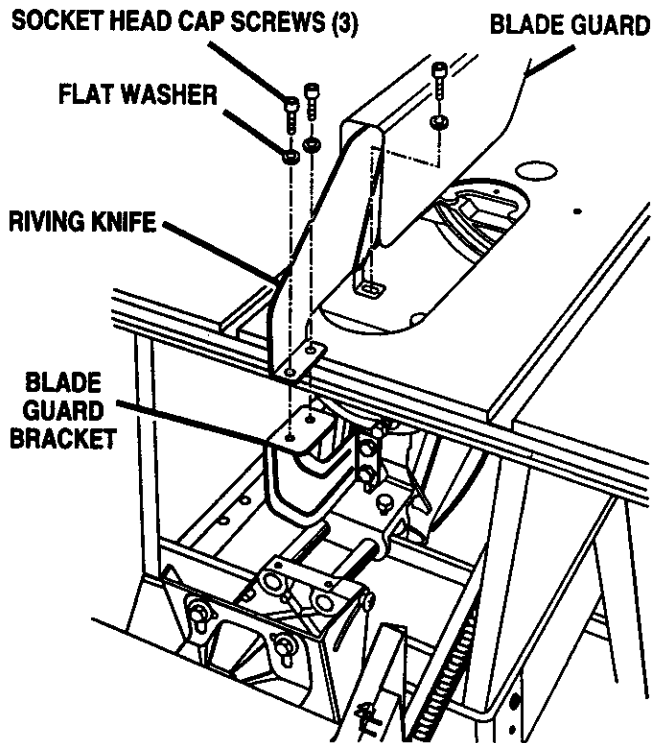

Fig. 26
- Put the blade guard assembly in place on the tabletop, aligning the screwholes in the riving knife to the holes in the blade guard bracket. Align the hole in the front of the riving knife base with screw hole in the saw table. See Figure 26.